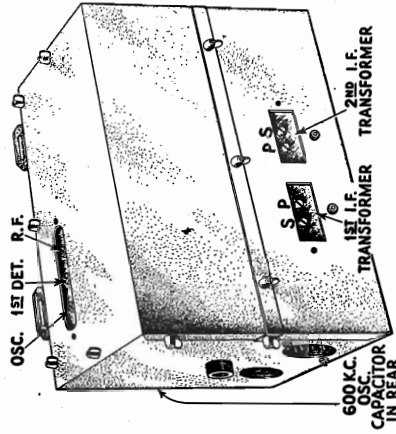

Figure 24—Location of Radio Frequency, Oscillator and Intermediate Frequency Adjustments
6. With the socket wrench, adjust the oscillator (see Figure 24), the first detector and the R. F. line-up capacitors until a maximum deflection is obtained in the output meter.
7. Set the oscillator at 600 K. C. Tune in this signal with the receiver and adjust for a deflection in the output meter. Now adjust the 600 K. C. series capacitor, Figure 24, until maximum output is obtained. *Note:* the tuning capacitor back and forth while making this adjustment.